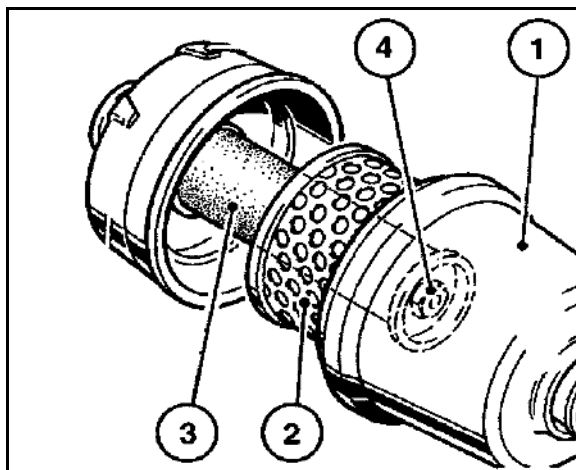

Fig. 168
1. Setup a collecting tray under the sealing bolt (Fig. 168/1).